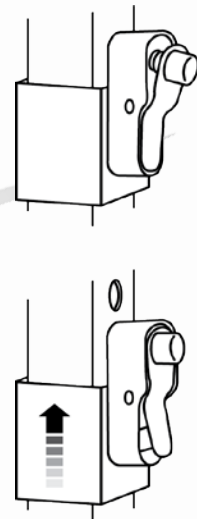

Figure 5 - Tube Lock
5. At each leg, secure the top part of the frame to the leg – raise the top part of the frame until the location pin in the tube lock pops into its hole as shown in Figure 5.